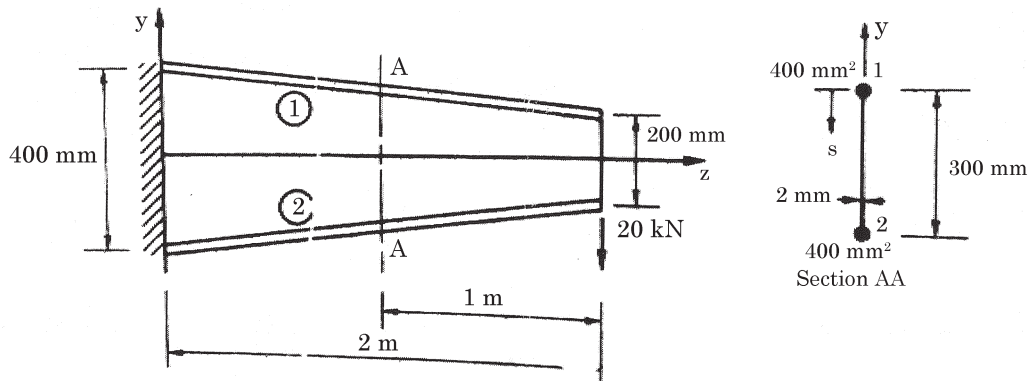

Figure 6
- b) A thin-webbed tapered beam is indicated in Figure 6. Obtain and plot the shear flow distribution in the web at a section located 1 m from the free-end. The web ($t = 2$ mm) is fully effective in resisting bending.